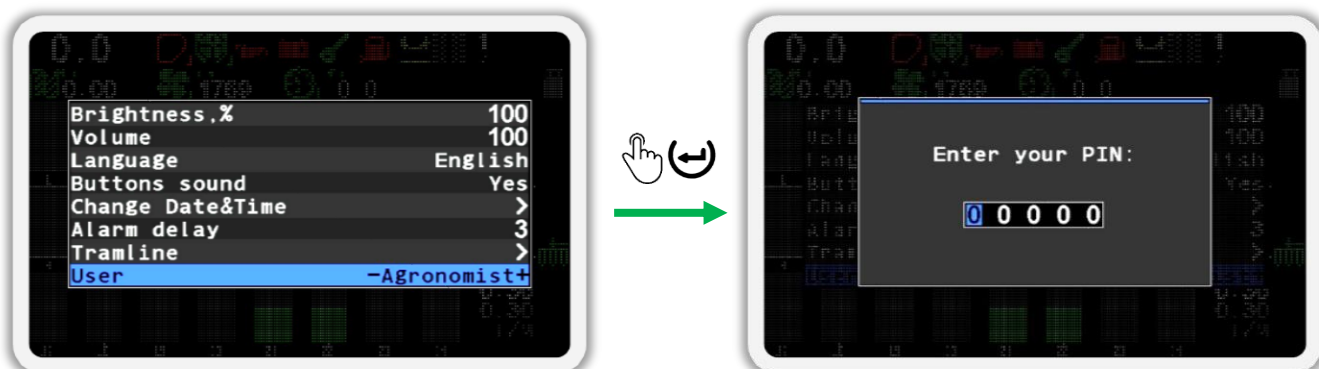

Figure 45
3. Now select the  “Agronomist” user (see Figure 45 on the left). To do this, use the  “Plus” or  “Minus” buttons.
5. In the window that appeared (see Figure 45 on the right) enter PIN code “88888”. A number whose value can be changed is displayed in black on a blue background. To change its value, use the  “Plus” or  “Minus”